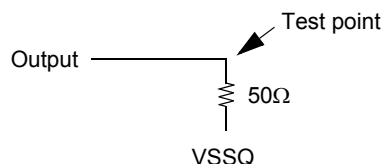

Figure 2 : Pullup slew rate test load
- a. Pullup slew rate is characterized under the test conditions as shown in Figure 2.